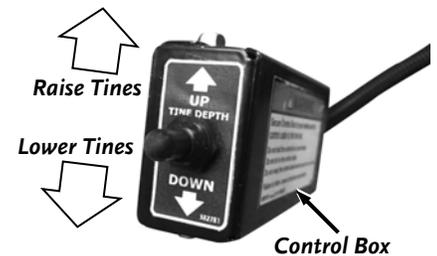

Figure 16
1. Push the Toggle Switch to the Up position and hold. When you release the Switch, it will return to center (OFF) position (Figure 16).
1. Push the Toggle Switch to the Down position and hold. When you release the Switch, it will return to center (OFF) position (Figure 16).